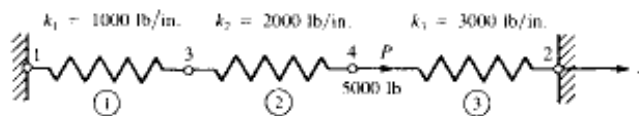

Figure 1
- (b) For the spring assemblage with arbitrarily numbered nodes shown in following Figure 1, obtain (a) the global stiffness matrix, (b) the displacements of nodes 3 and 4 and (c) the reaction forces at nodes 1 and 2. A force of 5000 lb is applied at node 4 in the x direction. The spring constants are given in the figure. Nodes 1 and 2 are fixed. 07